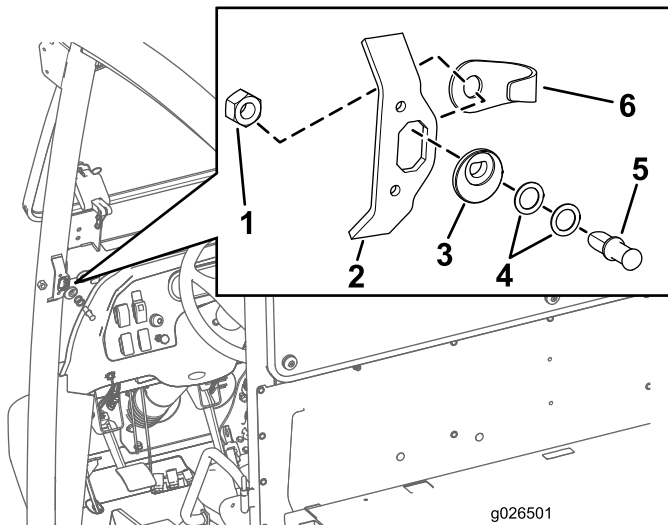

Figure 5
1. Align the latch-pin cam with the opening at the striker plate in the position shown in Figure 5.
2. Insert the latch pin (without the washers at first) into the latch-pin cam (Figure 5).
3. Align the pin guard and the hex nut (7/16 inch) onto the back side of the opening at the strike plate (Figure 5).
4. Tighten the hex nut (7/16 inch) onto the latch pin, so it is finger tight (Figure 5).